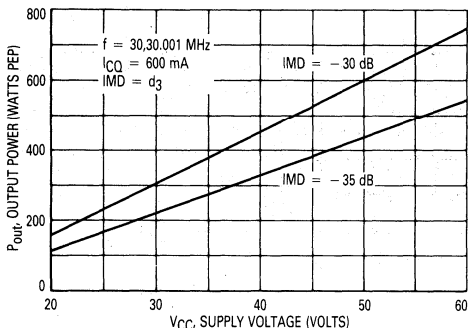

Figure 4. Output Power versus Supply Voltage
- T1 — RF Transformer, 1:25 Impedance Ratio. See Motorola Application Note AN749, Figure 4 for details. Ferrite Material: 2 Each, Fair-Rite Product Corp. #2667540001 or equivalent